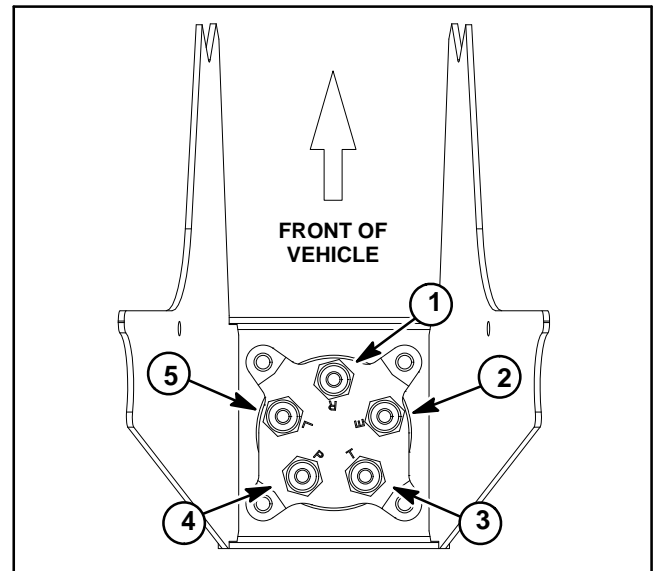

Figure 38
6. Remove four (4) flange head screws that secure steering control valve to vehicle frame. Move steering valve (with hydraulic hoses attached) away from vehicle frame.
7. Label and disconnect hydraulic hoses from steering control valve (refer to Figures 38 and 39). Install caps or plugs in hoses and valve fittings to prevent contamination and leakage of hydraulic oil.
1. Replace O-rings on hydraulic fittings. Remove caps and plugs from hoses. Connect hydraulic hoses to correct steering control valve ports (refer to Figures 38 and 39) (see Hydraulic Hose and Tube Installation in the General Information section of this chapter). Make sure that hoses are not twisted while tightening.
2. Position steering control valve to vehicle frame with port R toward front of vehicle (Fig. 38). Secure steering control valve to vehicle with four (4) flange head screws.